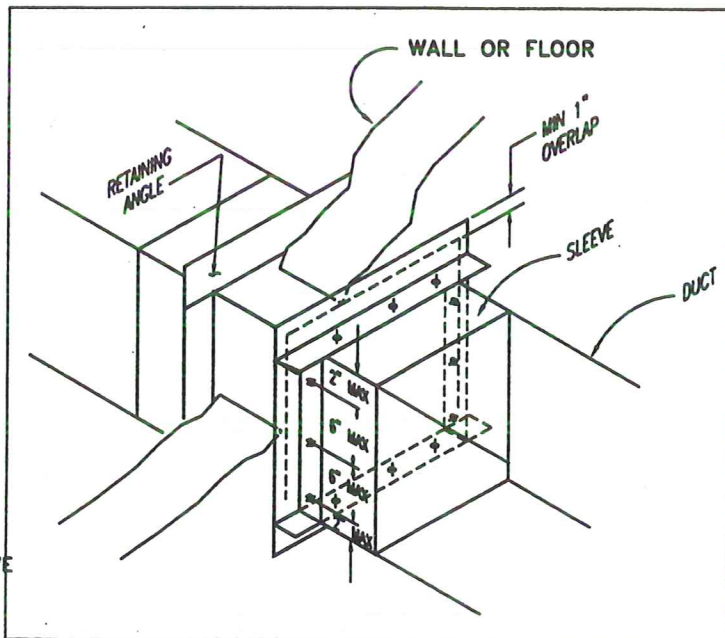

FIG. 2
- Retaining angles must completely cover the clearance space between the sleeve and the wall / floor opening, plus overlap the wall / floor a minimum of 1". This coverage includes all corners (fig. 2).